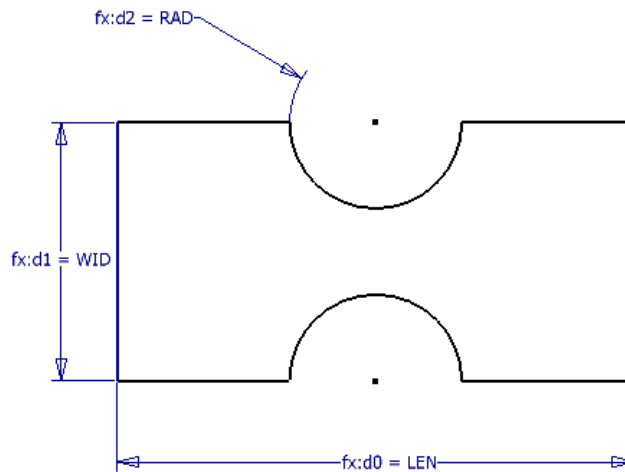

Figure 18-31 Sketch displaying the dimensions as equations
- Invoke the **Dimension** tool and dimension the sketch by entering parameters instead of entering values in the **Edit Dimension** edit box, refer to Figure 18-31.
This completes the dimensioning of the sketch. The sketch after adding all the dimensions is shown in Figure 18-31. In this figure, the grid lines and axes have not been displayed for better visibility of the sketch.